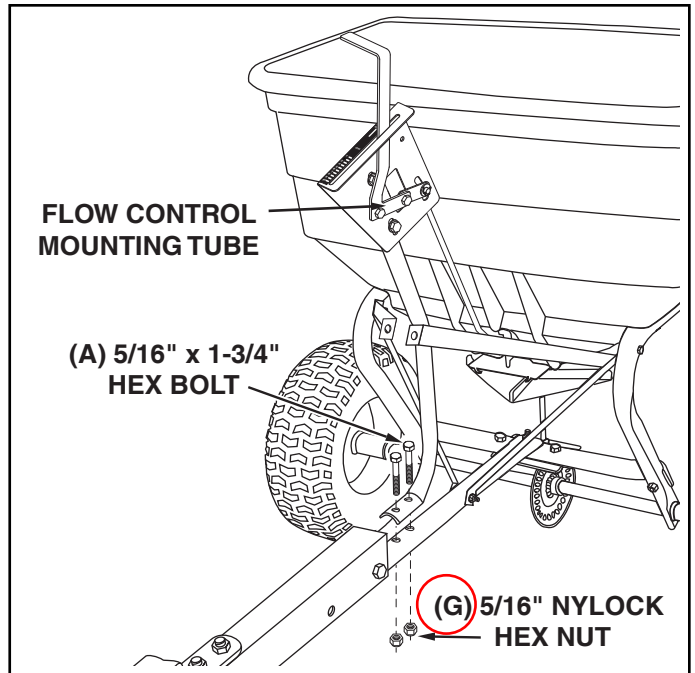

FIGURE 6
12. Assemble the flow control mounting tube to the hitch tube using two 5/16" x 1-3/4" hex bolts (A) and 5/16" nylock hex nuts (D). **DO NOT TIGHTEN YET.** See figure 6.